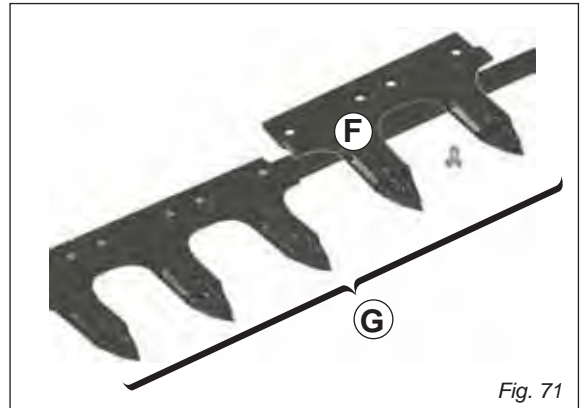

Fig. 71
Replacement of tooth-holding bar (riveted) (G Fig. 71)
Replacement of tooth (riveted) (F fig. 71)
- Rivet a new tooth with the rivets provided (F, Fig. 71).